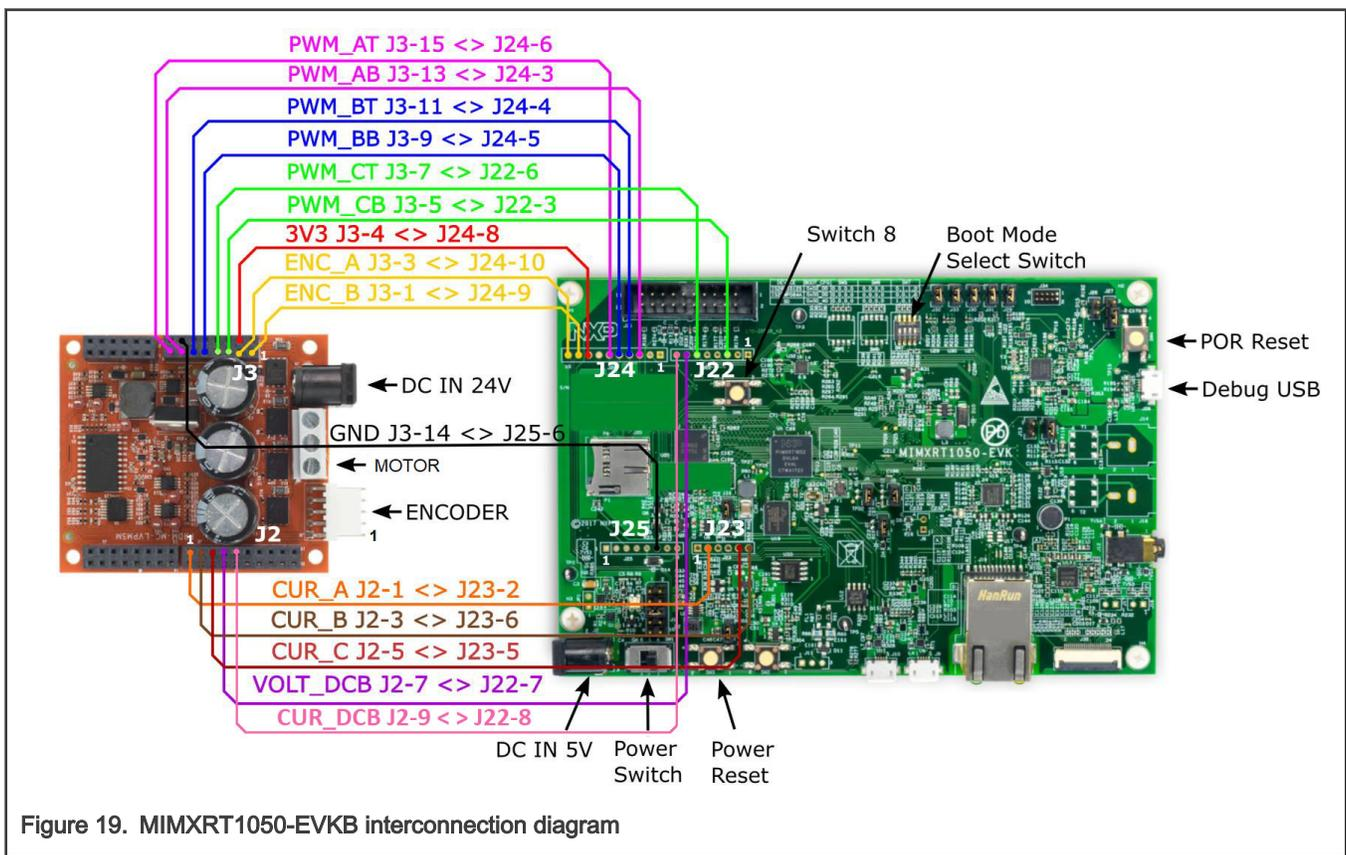

Figure 19. MIMXRT1050-EVKB interconnection diagram
1. Wire the FRDM-MC-LVPMSM power stage to the MIMXRT1050-EVKB board according to the pin assignment (Table 9) and the interconnection diagram (Figure 19).